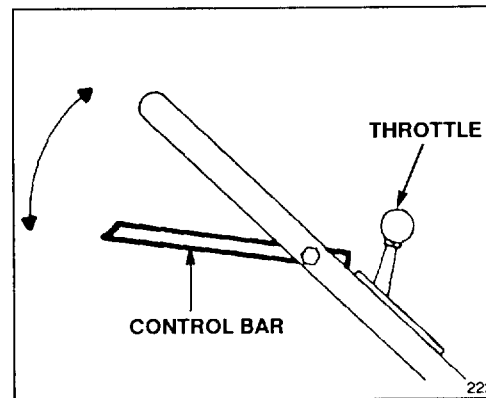
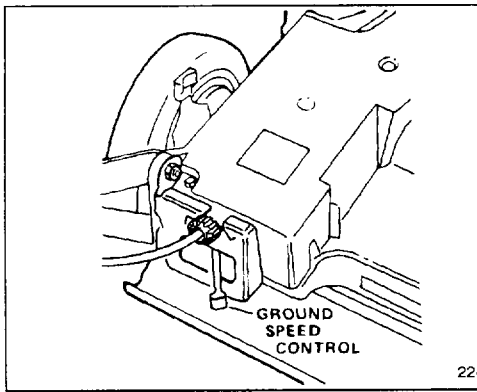

Figure 5
Figure 6
4. STARTING—Move throttle to  (CHOKE) (Fig. 5). Pull fingertip starter out slowly until positive engagement results; then pull vigorously to start the engine. Regulate throttle as desired when engine starts (Fig. 5).
selection (Fig. 6). Squeeze control bar against handle to drive. Ground speed varies, depending on space between control bar and handle (Fig. 5).